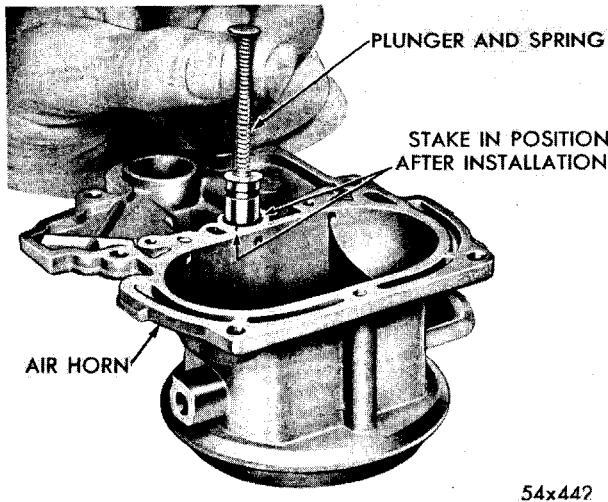

Fig. 21—Installing Vacuum Power Piston
(2) Remove the accelerator pump plunger from the jar of gasoline. Check the leather. If the leather is hard, cracked, or worn, install a new plunger and shaft.
(3) Slide the bowl vent valve seat over plunger shaft followed by the compression spring. Insert assembly through air horn, then install bowl vent valve clip in the center groove of shaft.
(4) Slide bowl vent valve over shaft and down against seat. Engage pump shaft with pump arm and secure with clip.
(5) Install the vacuum power piston and plunger in the air horn, as shown in Figure 21. Lock in position by prick punching on the retaining rim. Compress the pis-